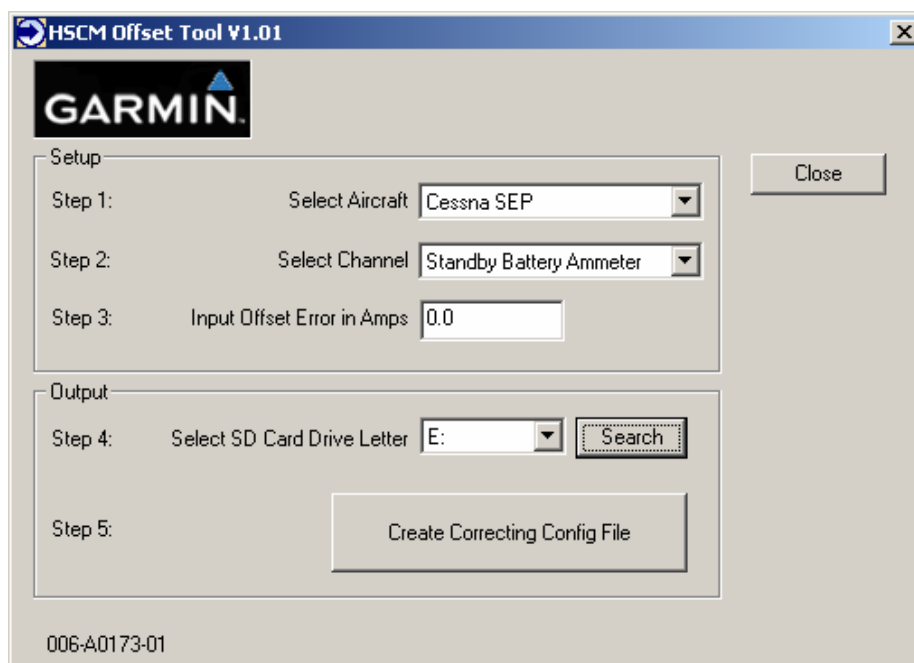

Figure 2-27. HSCM Offset Tool User Interface
17. Run the HSCM.exe program (verify interface resembles Figure 2-27).